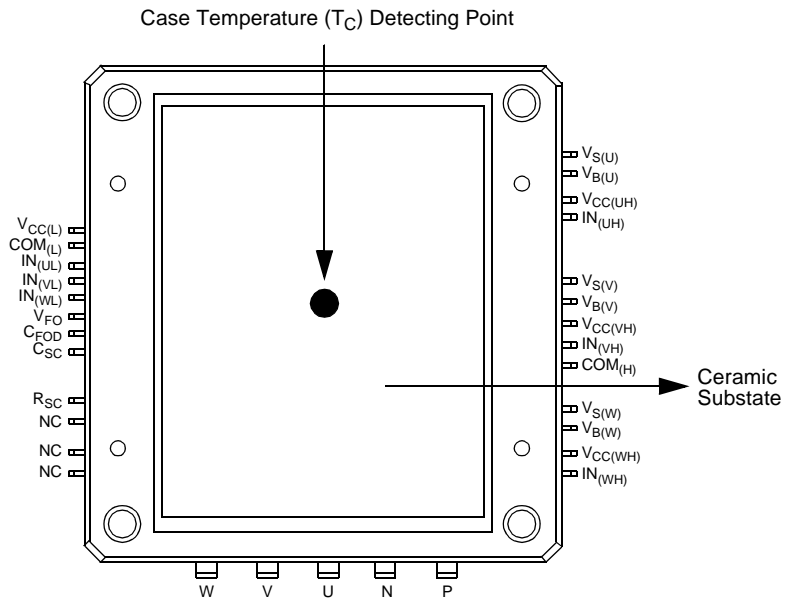

Fig. 4. T_c Measurement Point
| Each IGBT Collector Current | $\pm I_C$ | $T_C = 25^\circ\text{C}$ (Note Fig. 4) | 20 | A |
| Each IGBT Collector Current (Peak) | $\pm I_{CP}$ | $T_C = 25^\circ\text{C}$ (Note Fig. 4) | 40 | A |
| Module Case Operation Temperature | T_C | Note Fig. 4 | -20 ~ 100 | $^\circ\text{C}$ |
2. For the measurement point of case temperature (T_c), please refer to Fig. 4.